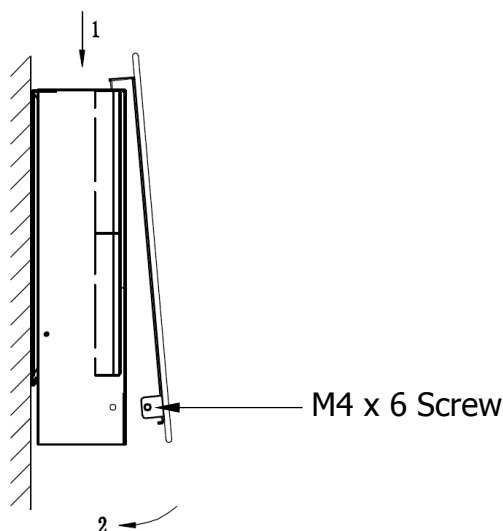

Figure 6
Step 7: Fit the appliance front fascia as shown below. (Figure 6)